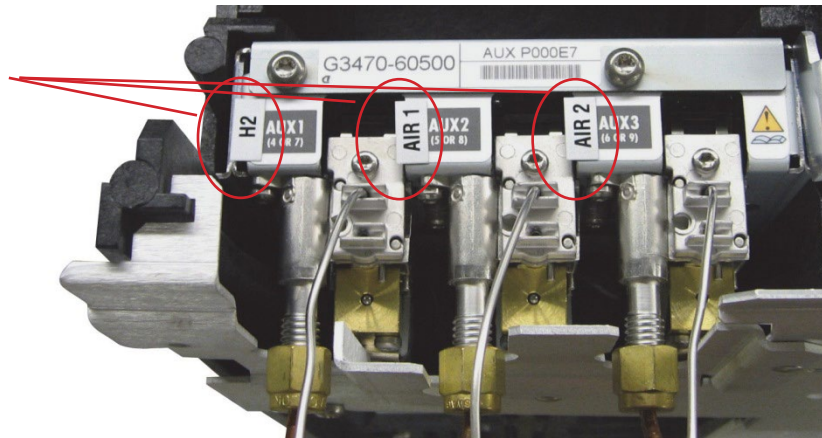

Figure 3.29. Label the Aux EPC
4. Attach the **H₂** label immediately to the left of the Aux 1 gas connector, the **Air 1** label to the left of the Aux 2 connector, and the **Air 2** label to the left of the Aux 3 connector on the top of the auxiliary pressure control manifold; refer to Figure 3.29.